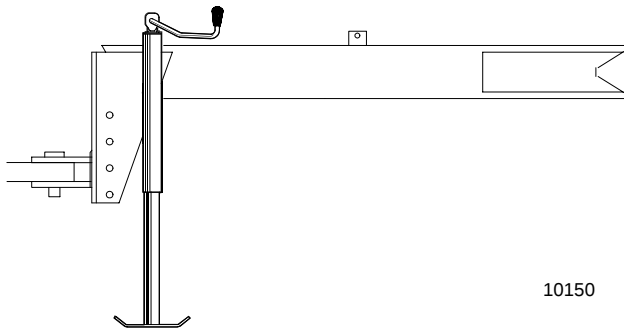

Figure 1-1
1. With drill lowered in field position and tongue jack mounted on side of tongue, raise or lower tongue jack to level drill tongue. See Figure 1-1.